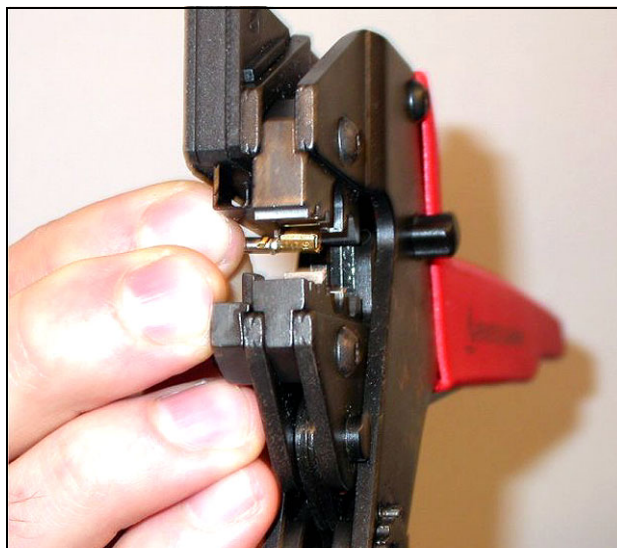
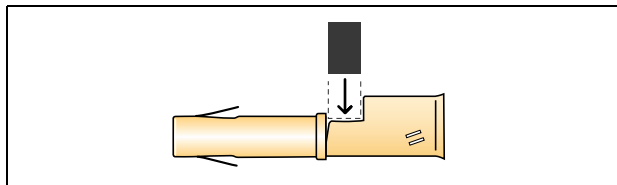

figure 29.12: Crimping a socket contact (1)
figure 29.13: Positioning a socket contact
- 10 Put a socket contact in the crimping tool (tool 3, see figure 29.12). The upper part of the crimping tool contains a ridge for positioning the socket contact in the tool (see figure 29.13).